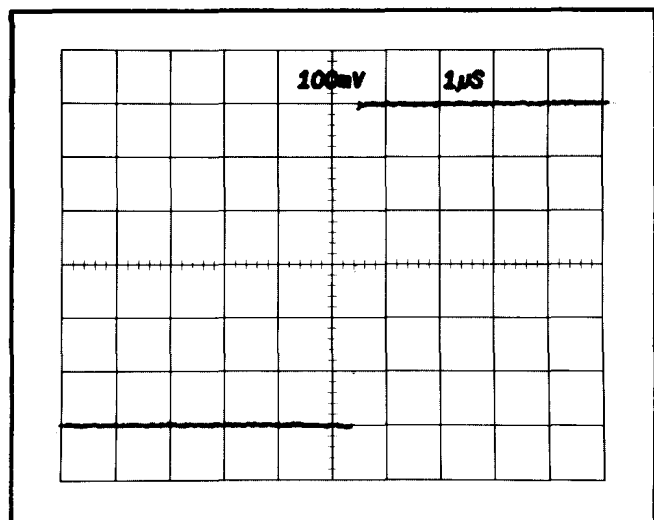

Fig. 5-2. VERT GAIN control adjustment. Only a portion of the square wave input signal is displayed.
n. Check that the pulse step amplitude is a 6 div (600 mV) step. Adjust the VERT GAIN (screwdriver adjust) control for a 6 div step if necessary. See Fig. 5-2 for this waveform.
e. CHECK that the pulse amplitude is at least 200 mV (2 div). This waveform is similar to Fig. 5-2.